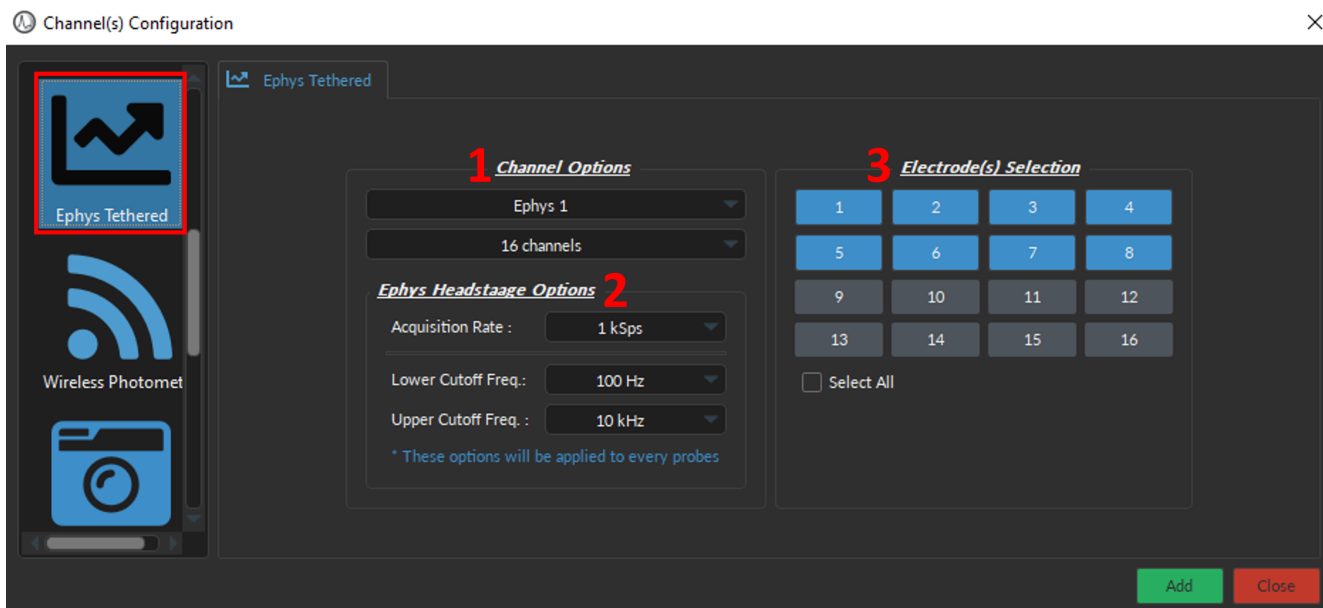

Figure 11.54: Channel(s) configuration, Ephys Tethered
1. The **Channel Options** (Fig. 11.54, 1) includes the following parameters:
2. The **Ephys Headstage Options** (Fig. 11.54, 2) includes the following parameters:
3. The **Electrode(s) Selection** (Fig. 11.54, 3) selects which of the total **Channel Number** are enabled (in blue). Allows users to disable (greyed out) broken electrode sites or electrodes that are not in the region of interest. No data will be collected from the disabled electrode(s). Use the **Select All** checkbox to enable all electrodes simultaneously.